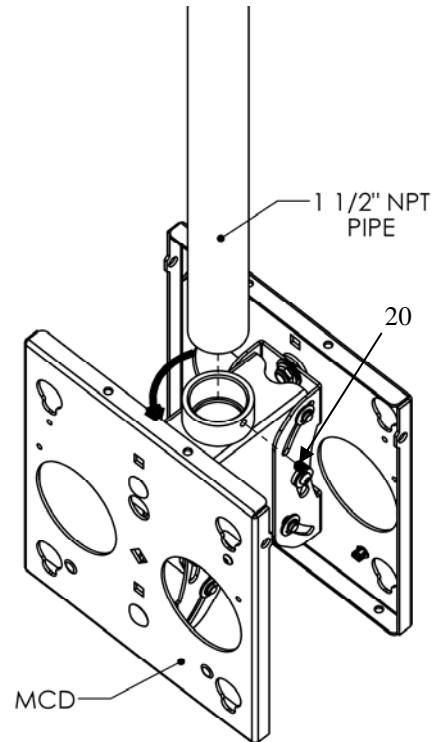

Figure 2. Attach NPT Pipe to Mount
1. Thread the mount (10) onto the existing 1-1/2" NPT pipe at least four complete turns (see Figure 2).
2. Using the hex wrench (30), insert the 5/16"-18 set screw (20) into the threaded collar on the mount (10).